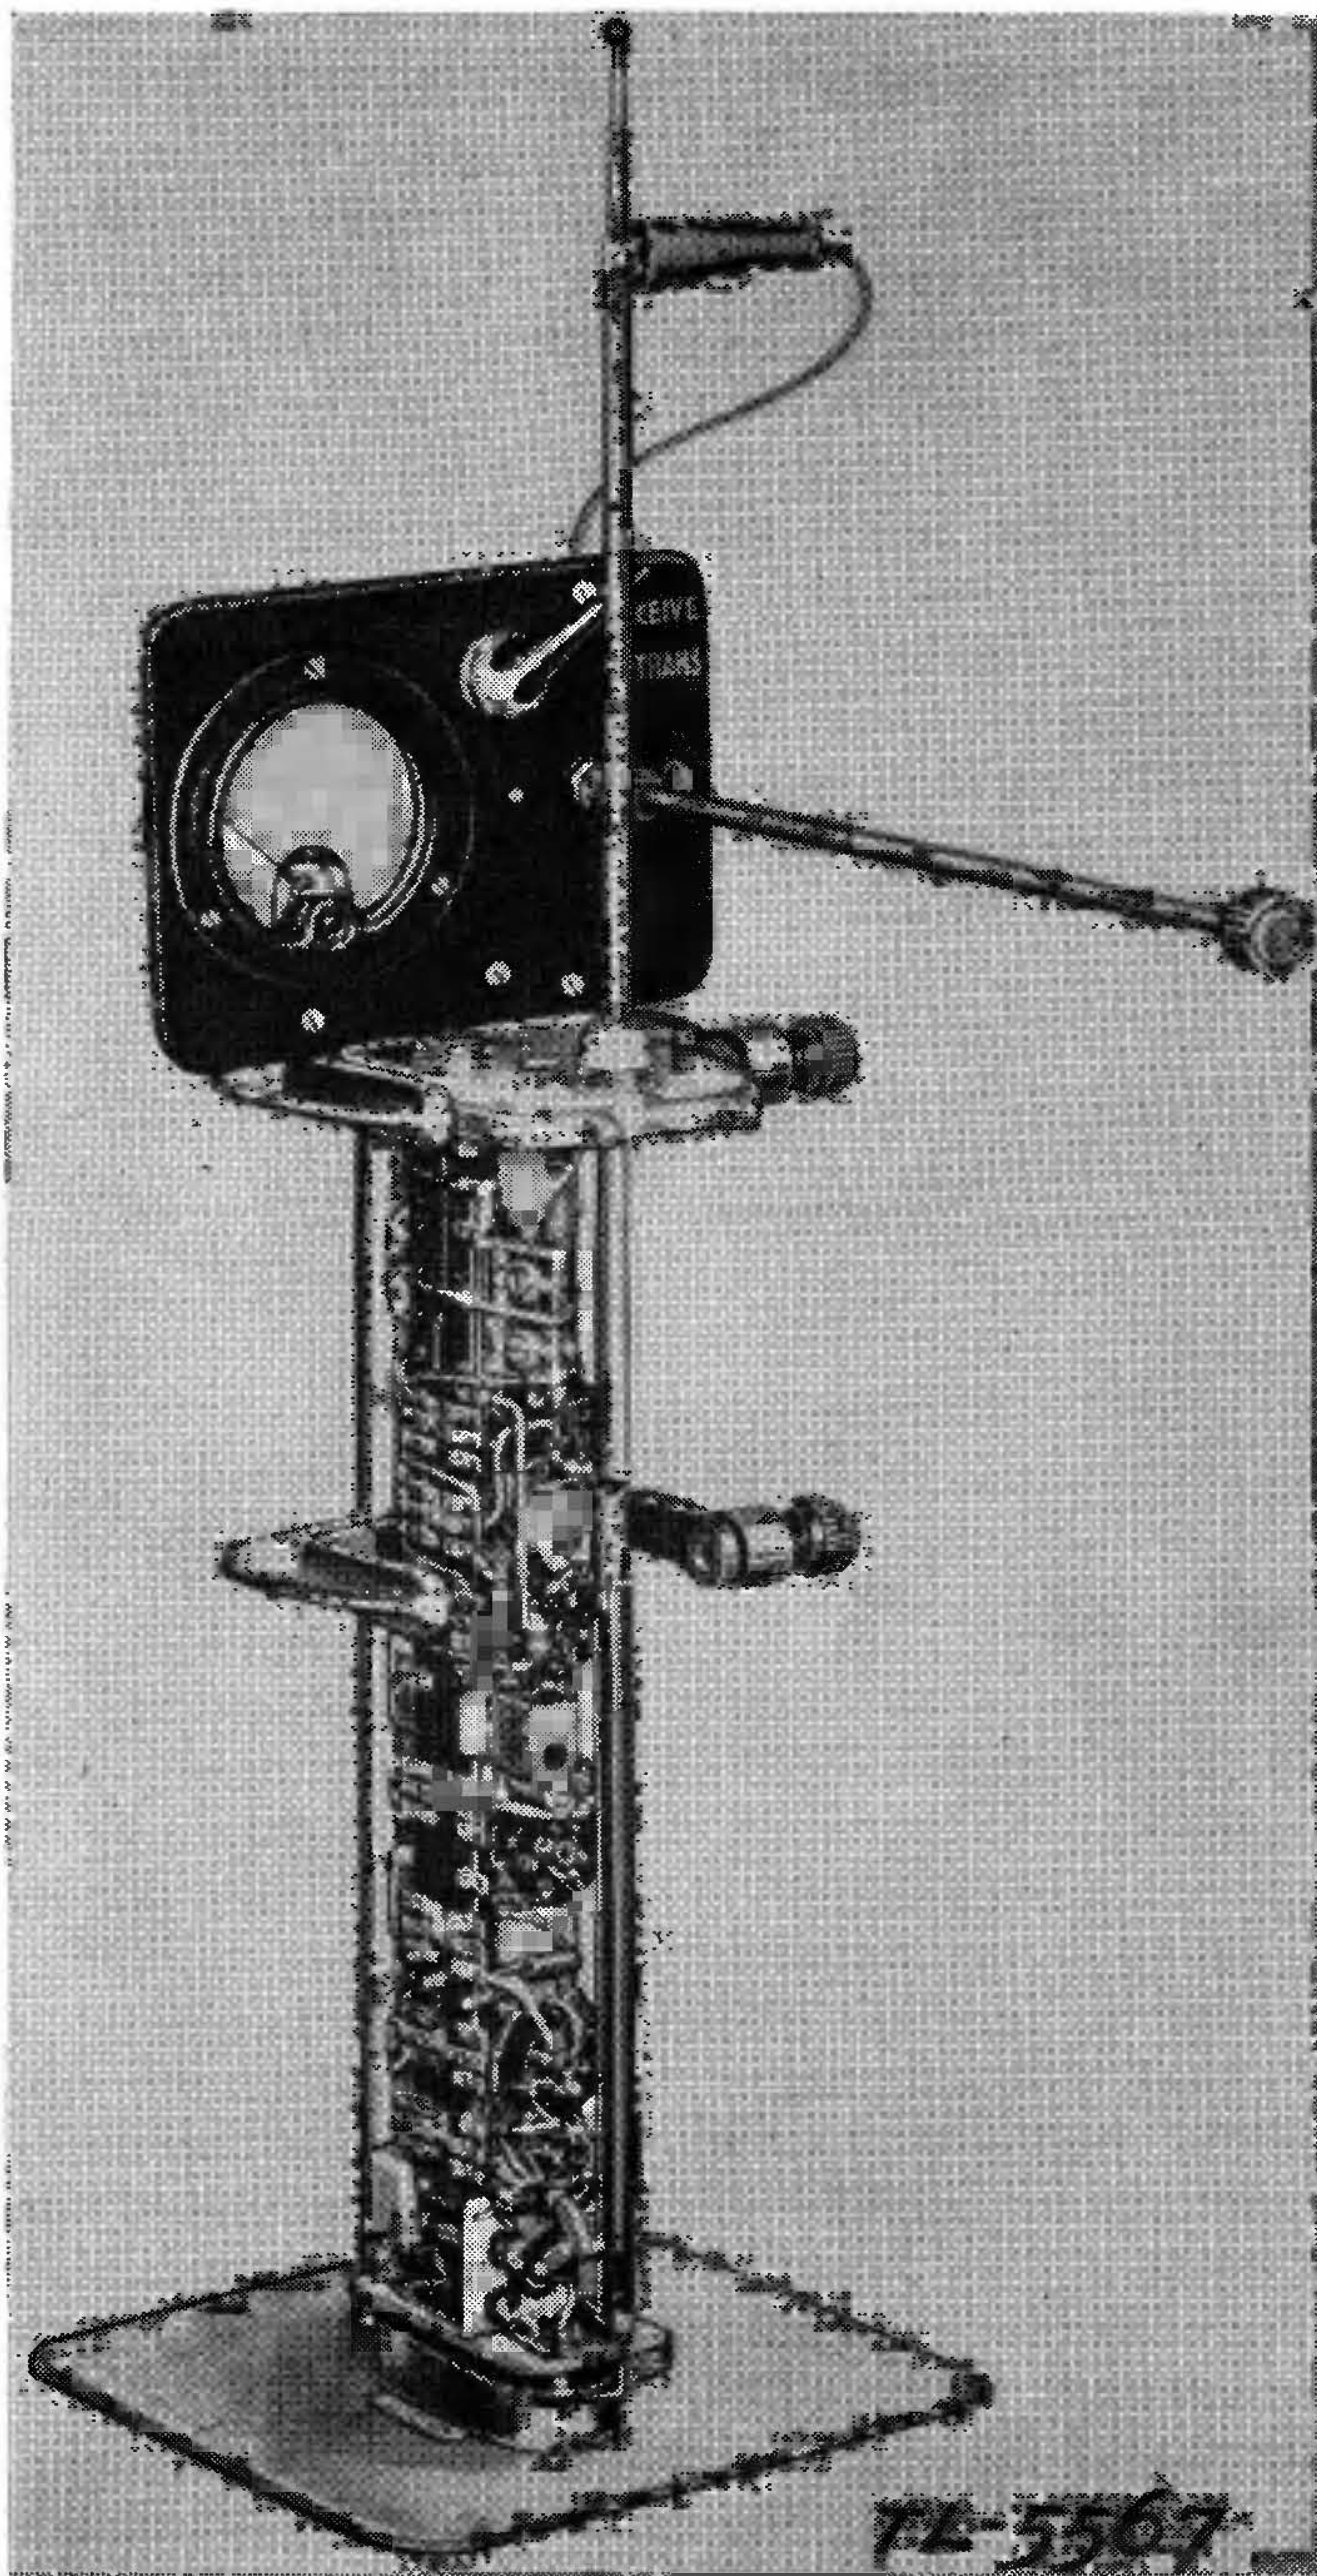

FIGURE 13.—Servicing set-up with test stand FT-252-(\*).
**61. Using signal generator.**—*a.* Remove the chassis from the test case and with the mounting screw fasten it to the top cover of the housing. Place the chassis in the test stand in the same relative position as when in the test housing, and hold it there by gripping the housing cover with the upper clamp of the test stand. (See fig. 13.) Leave test unit I-135-(\*). connected to the chassis by means of the harness.